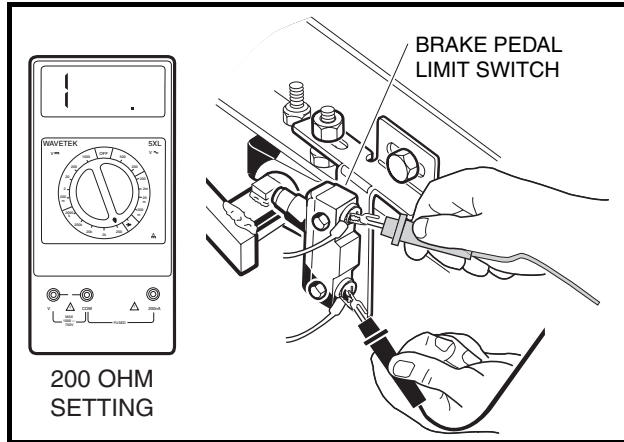

Figure 11-41 Brake Light Limit Switch Test – Brake Pedal Up
3. Set a multimeter to 200 ohms and place alligator clips on the multimeter probes. Place the probes onto the two terminal screws on the limit switch located under the floorboard (**Figure 11-41, Page 11-41**).
4. With the brake pedal released, the multimeter should indicate no continuity (**Figure 11-41, Page 11-41**).